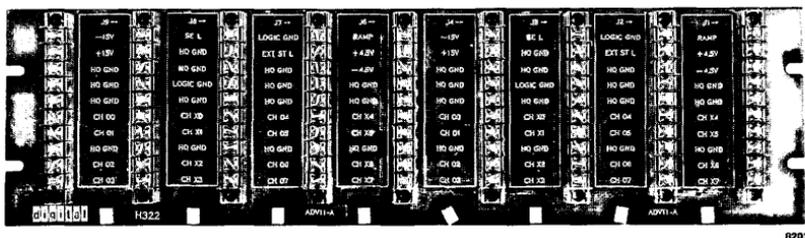

Figure 12 H322 Distribution Panel
**Distribution Panel** — Figure 12 shows an H322 distribution panel that is connected on the rear to the ADV11-A Berg connector and on the front provides easily identifiable and conveniently accessible barrier